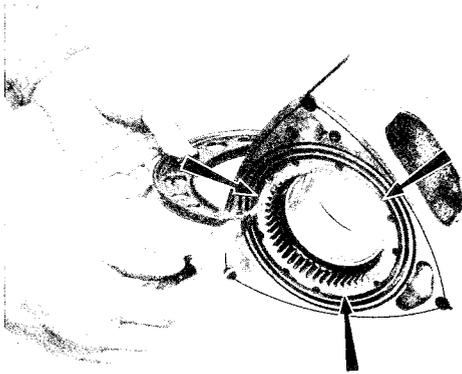

Fig. 1-36 Checking rotor width
3. Check the clearance between the side housing and the rotor by measuring the rotor housing width and rotor width. The rotor width should be measured at three points, as shown in Fig. 1-36.